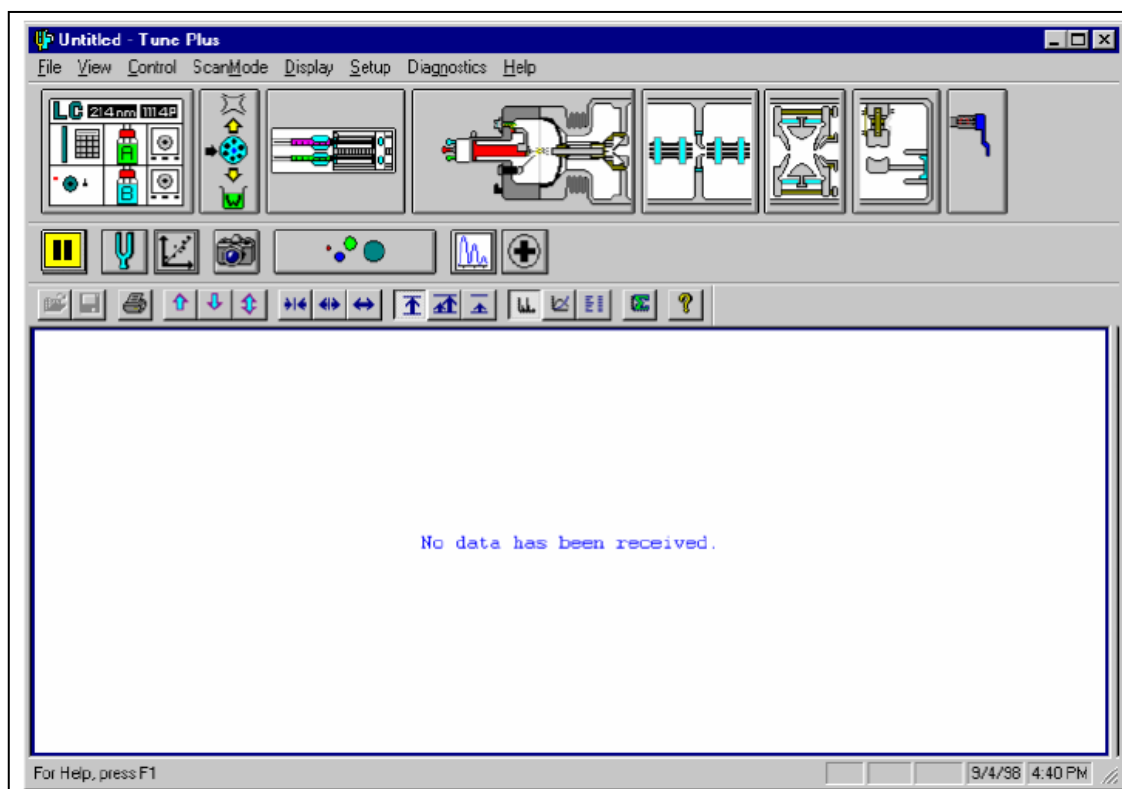

Figure 8. The Tune Plus window, showing the MS detector in the Standby mode.
- 8.2.2.4. On the desktop, double click on the LCQ Tune icon to display the Tune Plus window as shown in Figure 8. The LCQ is on Standby mode. Allow the system to pump down for at least one hour. Look on the status panel in the Tune Plus window. Check to see if the ion gauge pressure is around 1×10^{-5} Torr and the convectron gauge pressure is around 1 Torr before starting. Pressures below these values indicates blockage in the heated capillary. If the ion gauge pressure and convectron gauge pressure are not within the set limits, inform the person in charge of the LCQ.